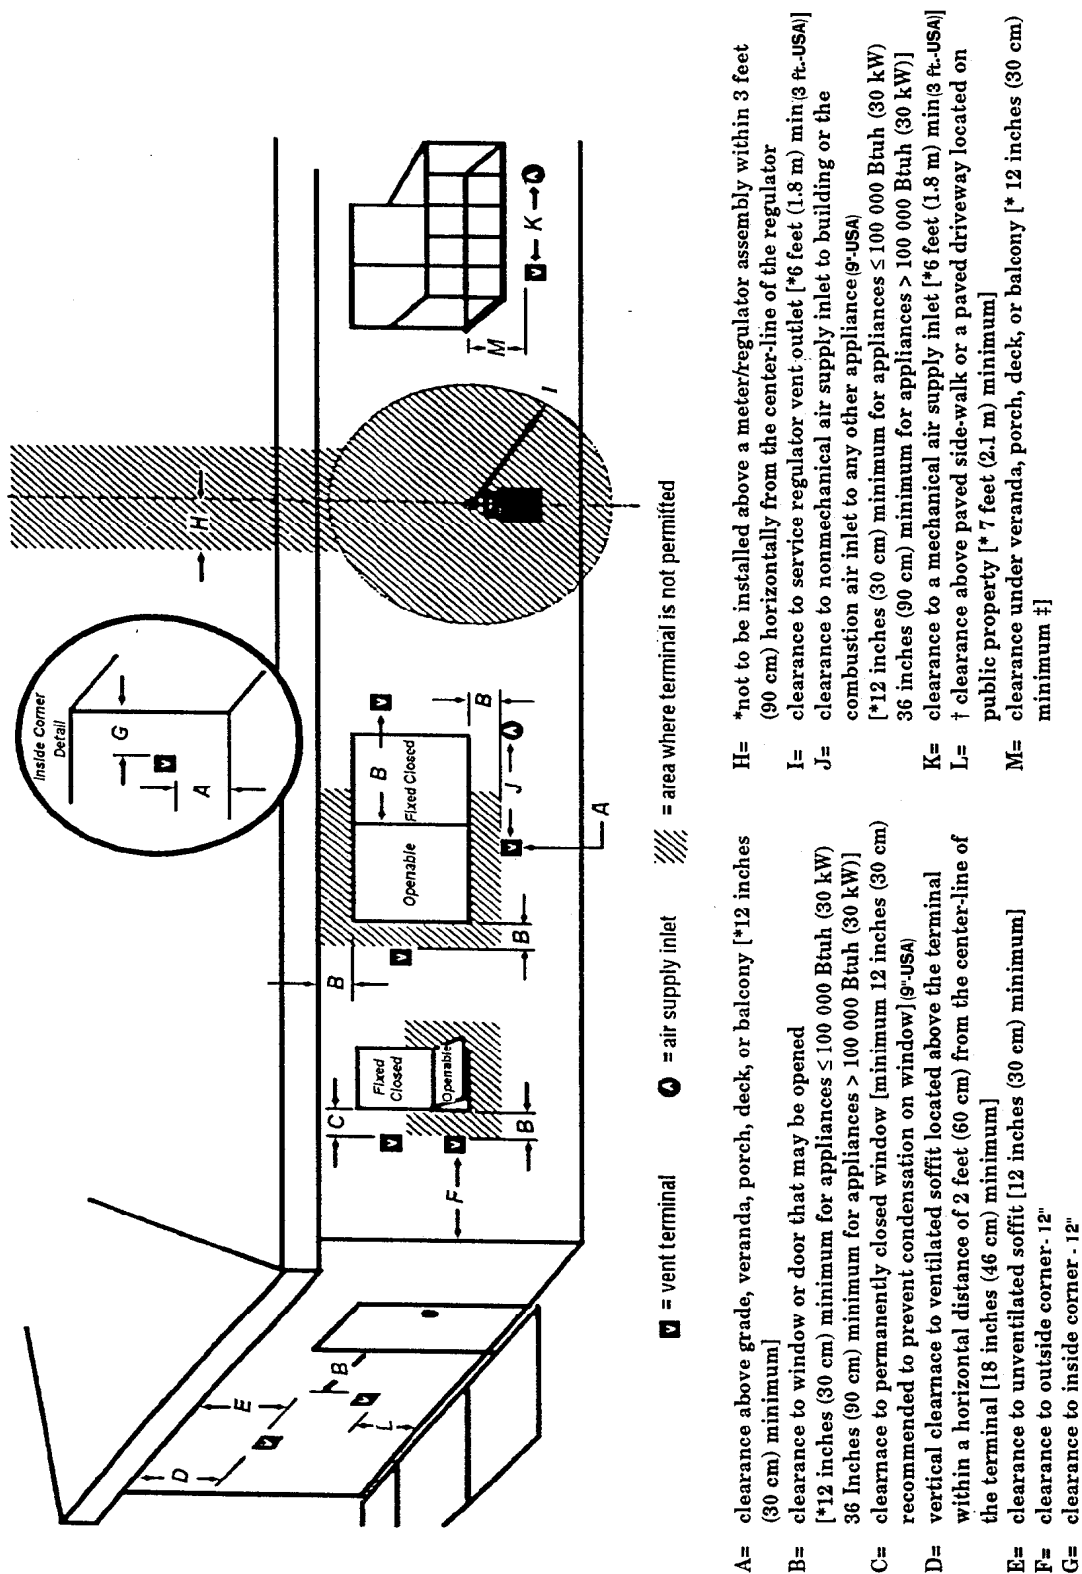
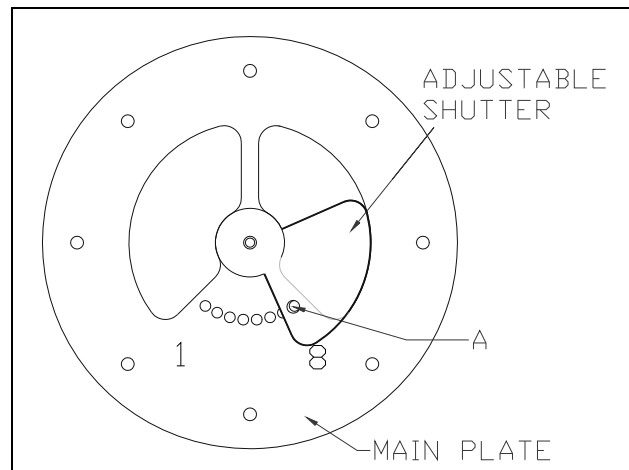

Figure 8
Figure 11: Restriction Plate Adjustments
The restriction plate is used to control the draft of the heater. Controlling the draft also changes the aesthetics of the flame. The restriction plate has eight settings, one (1) being the lowest and eight (8) being the highest. For a fast moving flame with lots of action, use a low setting. For a slow, lazy flame, a high setting should be used. See *Figure 11* for instructions on how to adjust the restriction plate settings.
Remove the log set before adjusting the restriction plate by following the log set removal instructions on page 25. Make sure the unit is cool before touching any part of the firebox and log set. Remove the exhaust baffle by removing the one screw in the center of the baffle (refer to *Figure 8*). The baffle will come out once the screw is removed. *Be careful not to drop the baffle on the pan burner.* Once the baffle is set aside, check the restriction plate screw location. There are eight locations that the restriction plate can be positioned. (Refer to Venting Configuration – *Figures 14 – 16* for recommended restriction plate positions) (Refer to *Figure 11* for proper adjustment plate index location) 'A' in *Figure 11* shows the locating screw that determines the position of the plate.